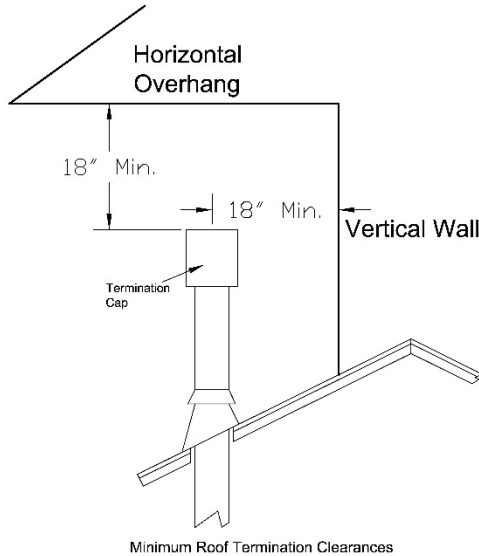

Figure 8 - Termination Cap clearances
- 🔥 All termination caps must be no less than 18" (457mm) horizontally from any roof or vertical surface. See Figure 8.
- 🔥 All horizontal terminations must also comply with the clearance specifications to adjacent structures outlined in Figures 8 & 11.